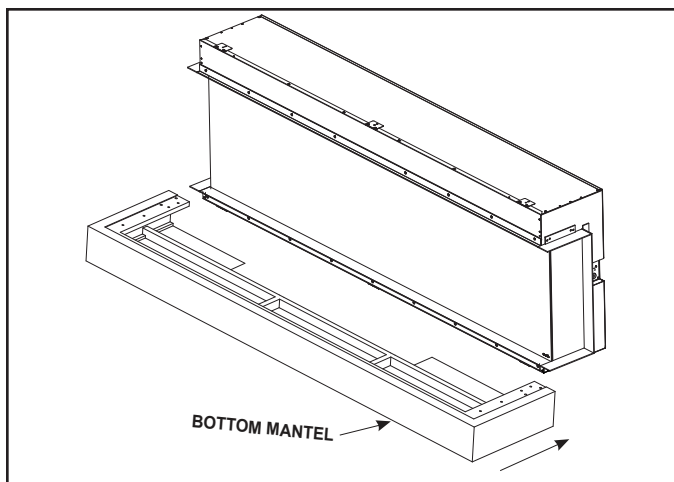

Figure 15
4. Position the bottom mantel between the bottom two-inch (51 mm) trim and the bottom brackets and slide into place. See Figure 15.